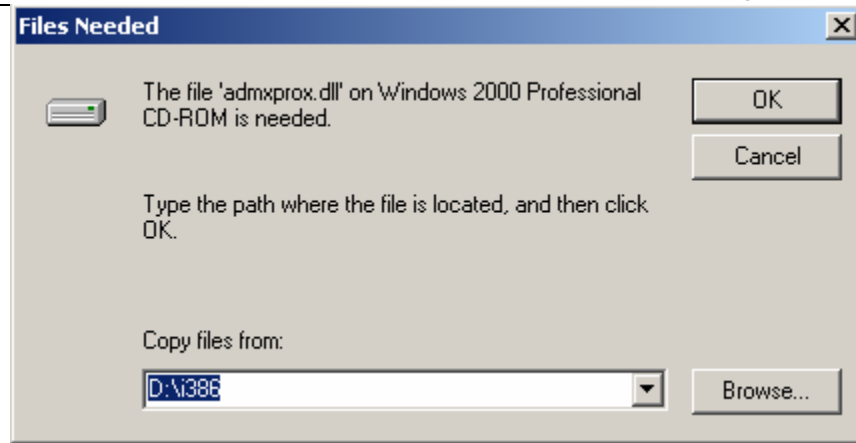

Figure 2.6. Files Needed Dialog Box
3. If additional files are necessary, the **Files Needed** dialog box will appear, as shown in **Figure 2.6**. In the **Copy files from** field, type in the drive on which your computer runs CD-ROMs, plus ":\i386"; or click the **Browse** button to locate the **i386** folder on your CD-ROM drive. After locating the **i386** folder, click on it to have it appear in the **Copy files from** field. Insert the Windows 2000 Professional CD-ROM and click on the **OK** button on the **Files Needed** dialog box.